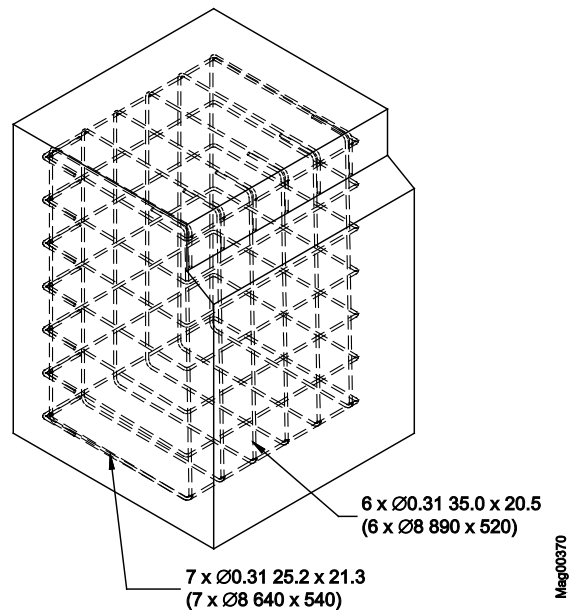

Fig. 17: Reinforcement grid – Access XL2 and Access XXL
2. Place reinforcement grid pursuant to Fig. 17 in the foundation hole.